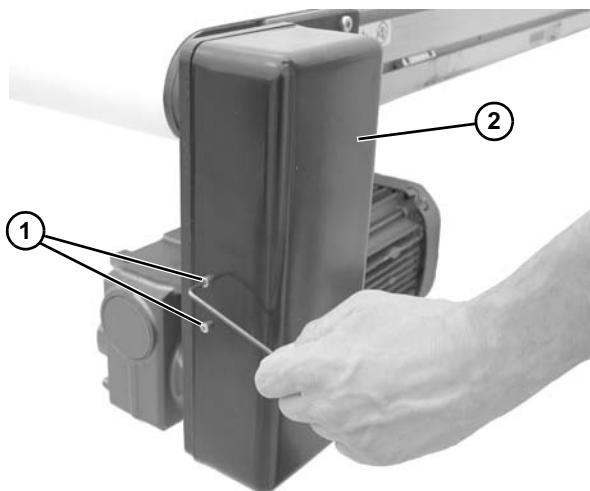

Figure 15
1. Remove four (4) screws (Figure 15, item 1) and remove cover (Figure 15, item 2).
4. Install cover (Figure 15, item 2) with four (4) screws (Figure 15, item 1). Tighten screws to 35 in-lb (4 Nm).